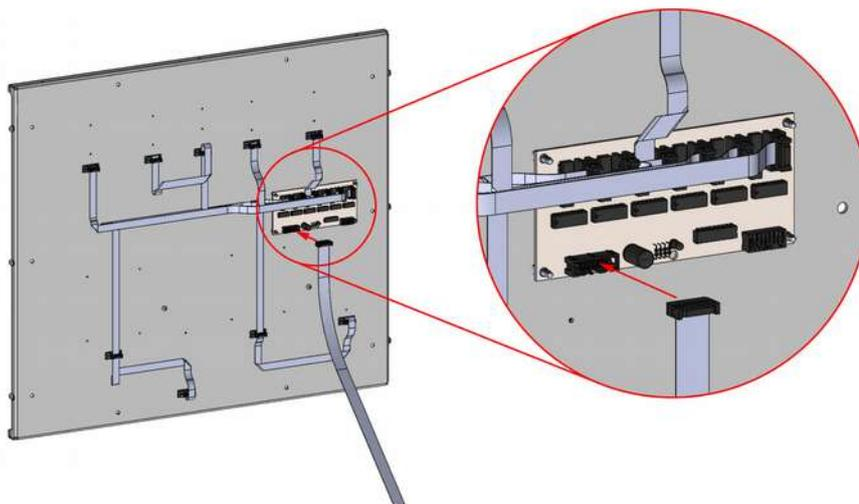

Fig. 3.6: Inner side of the front panel
7. Slowly pull out the front panel and gently unplug the cable connected it to its bottom. Connect the cable to the new front panel FS-24s-1UP as shown in Fig. 3.6 and repeat the operation for all the available front panels.